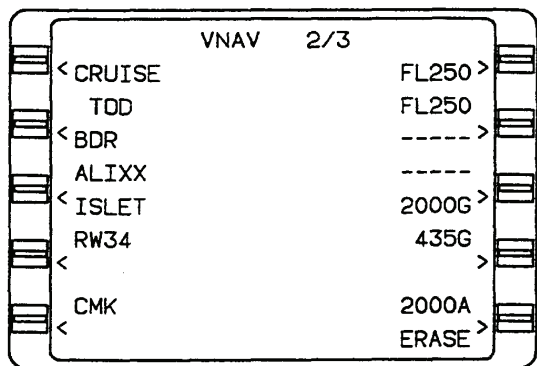

Figure 3A-34. VNAV 2/3 Page
(2) *VNAV 2/3 (Flight Plan) Page.* Refer to Figure 3A-34.